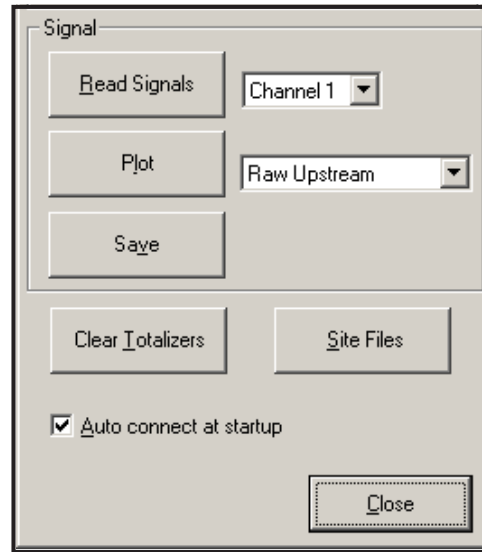

Figure 7: Active Signal Options
3. To read a signal from the meter, click on the [Read Signals] button. (If the meter is a multi-channel instrument, open the Channel drop-down menu and click on the desired channel.) After a moment, the *Properties* window appears similar to Figure 7.